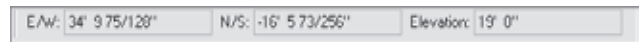

Figure 7.17
**Report Shared Coordinates** Shows the E/W (east–west, or X), N/S (north–south, or Y), and Elevation (Z) coordinates of any point in the model (see Figure 7.17).